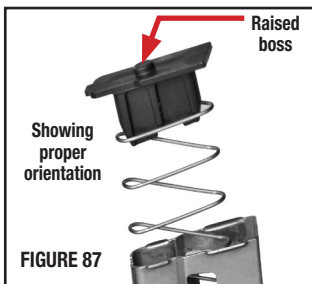
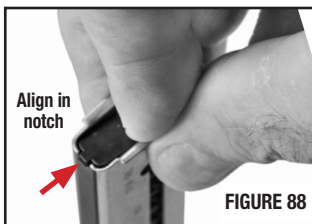

FIGURE 87
FIGURE 88
- Insert the butt plate catch into the spring and then into the tube from bottom in the same orientation as they were in when they were removed during disassembly (FIGURE 87).
NOTE: With the raised boss of the butt plate catch (FIGURE 87) toward the bottom of the magazine, align the tab at the front of the butt plate catch with the cutout in the front of the magazine tube (FIGURE 88) when reassembling. If the butt plate catch is not aligned this way, the raised boss on the magazine release won't engage the hole in the butt plate and lock in.